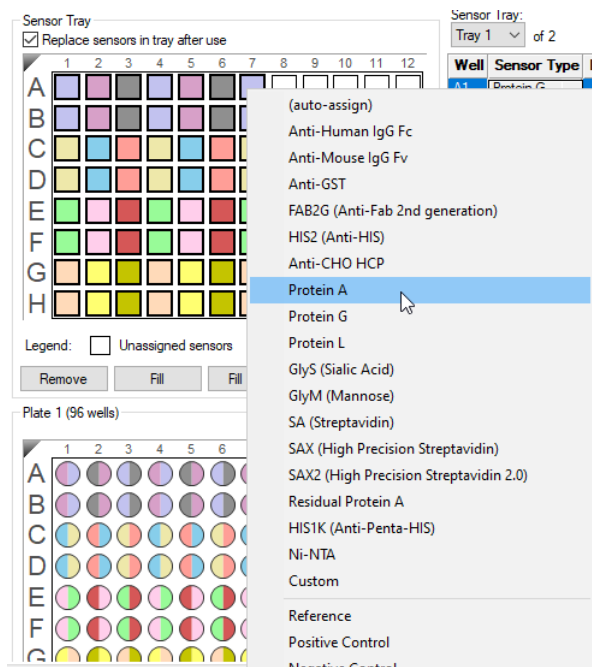

Figure 5-37: Populating the Sensor Tray Map with First Biosensor Type
3. Select **all** columns with default biosensor assignments in the **Sensor Tray Map**, right-click and select the first biosensor type to use (see Figure 5-37).